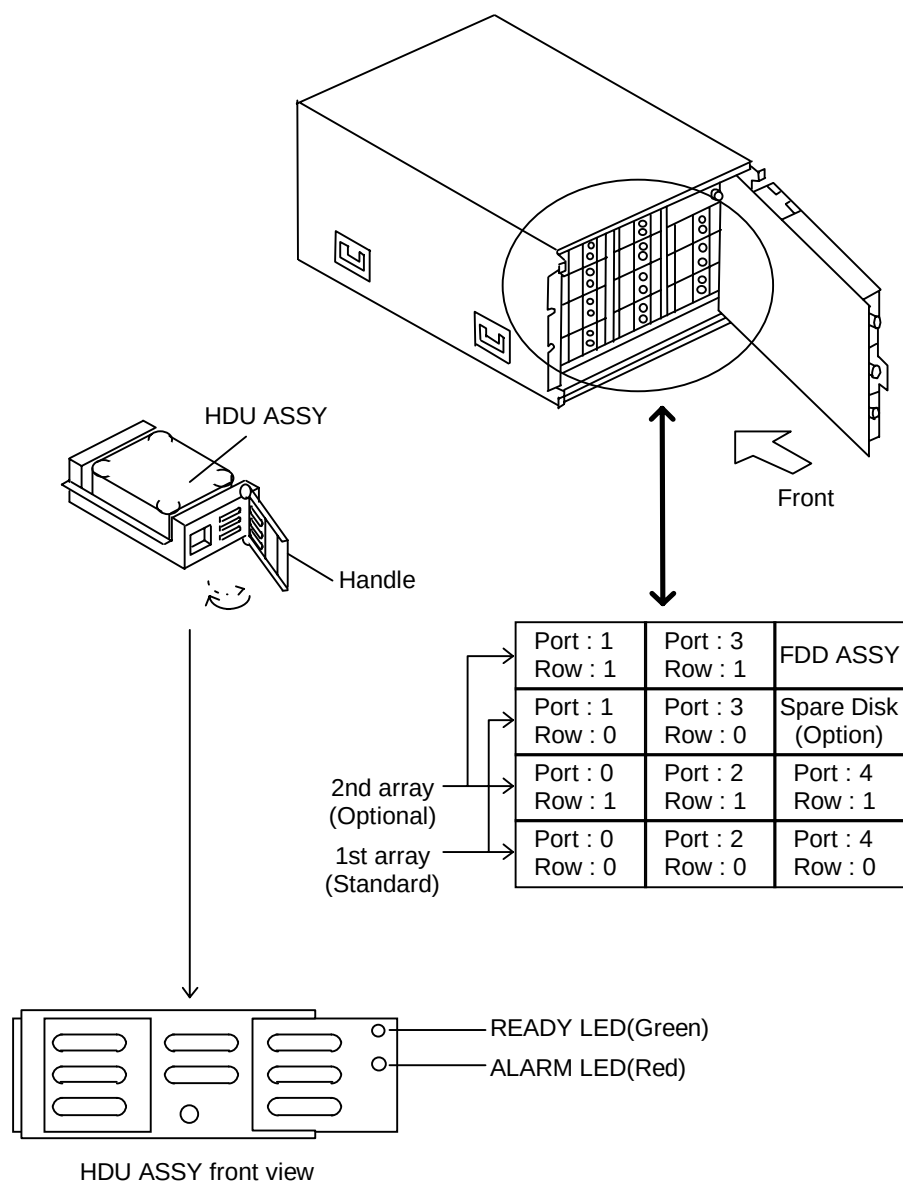

Figure 2.10.1 Installing the HDU ASSY
- (2) Remove the front cover and open the front panel.
(3) Remove the old HDU ASSY and set the new HDU ASSY. (See Figure 2.10.1 in RH-OPTION0230.)
(4) Set the DIP switches on the CTL ASSY as described below.